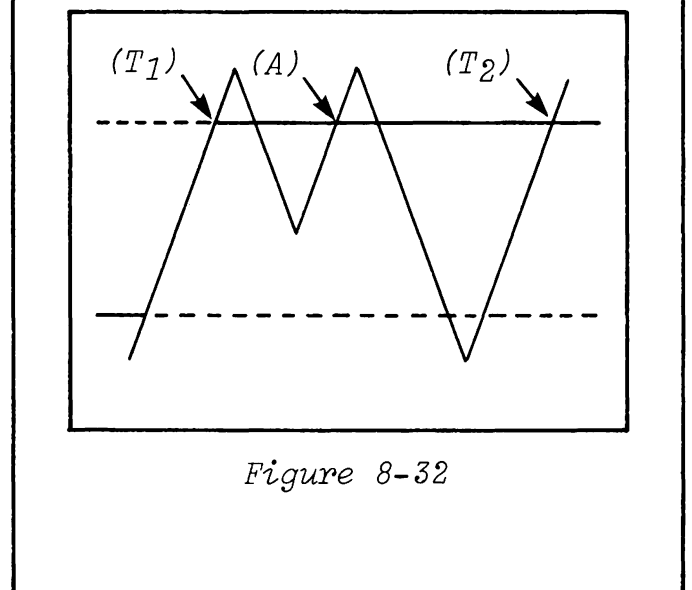

Figure 8-32
Figure 8-32: Once again, the signal qualifies as a trigger at point (T_1) . Since the second positive slope did not start below the lower threshold, a trigger will not occur at point (A) . It will, however, occur at point (T_2) because the positive slope begins below the lower threshold.